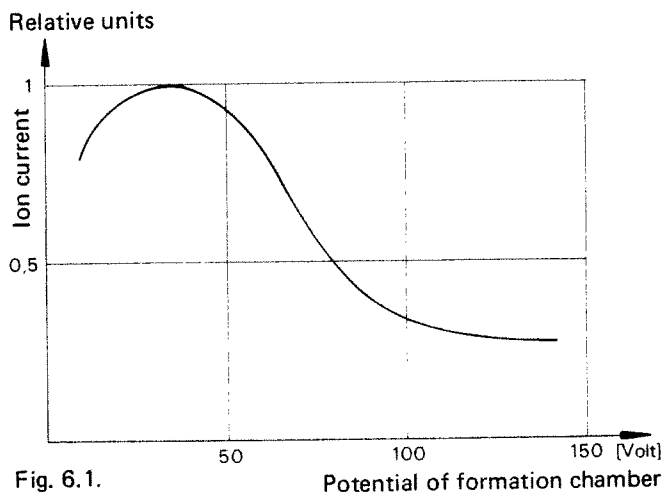

Fig. 6.1.
9. The sensitivity of a mass analyzer using the Cross-Beam Ion Source depends upon the formation chamber potential for constant ion energy within the mass filter (in QMG 101 and QMG 311: proportional to V3 - V4, QMG 511: V3). Figure 6.1. depicts the qualitative relationship. The maximum sensitivity lies between 30 and 60 V.